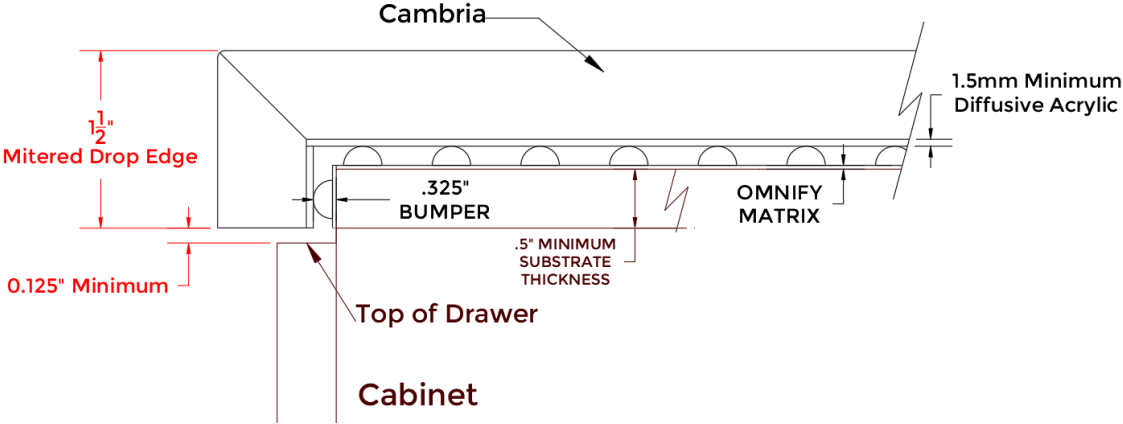

Figure 7
- 9. Cambria is properly raised above the Omnify Matrix sheet using rubber bumpers and a 1.5 mm thick diffusive acrylic layer. Bumpers must be spaced no more than 3" apart to achieve full support per Cambria installation standards. For Omnify Matrix sheets, this means that a bumper must be placed every fourth square. The diffusive acrylic layer is placed between the bumpers and Cambria. **See Figure 7.**